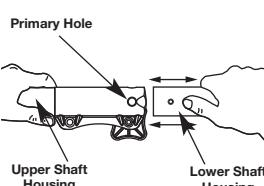

Fig. 13
- While firmly holding the add-on, push it straight into the EZ-LINK® coupler (Fig. 13).
- While firmly holding the upper shaft housing, pull the cutting attachment or add-on straight out of the EZ-LINK® coupler (Fig. 13).